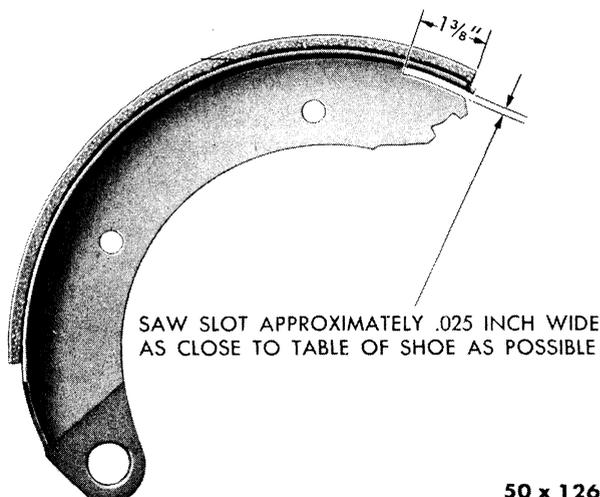

Fig. 93—Slot in Web of Shoe
- (1) Remove brake shoe and clamp shoe in vise.
- (2) With a hack saw, slot the web of the shoe to a depth of  $1\frac{3}{8}$  inches, as close to the table of the shoe as possible, as shown in Figure 93.